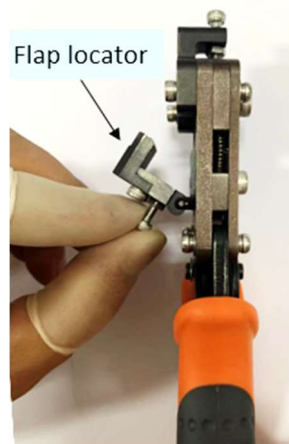

Figure 2
- 7.3 Pull the Flap locator and turn it on. See Figure 2.